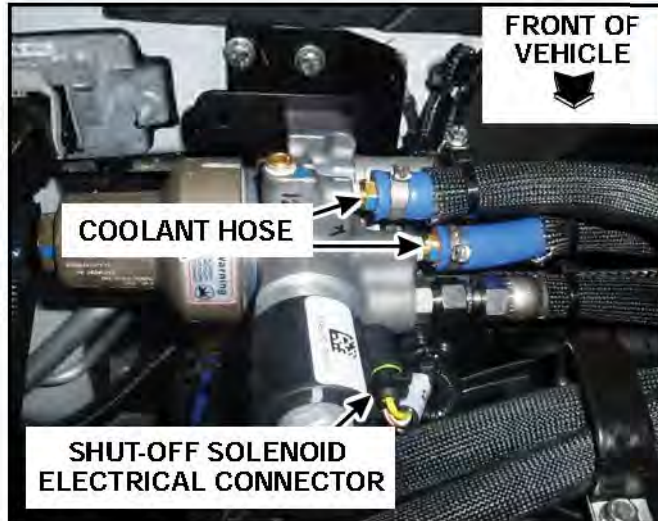

FIGURE 5a
2. Disconnect the coolant hoses, pressure relief hose, and electrical connectors from the CNG fuel pressure regulator. See Figures 5a and 5b.
4. Connect the coolant hoses, pressure relief hose, and electrical connectors to the CNG fuel pressure regulator. See Figures 5a and 5b.